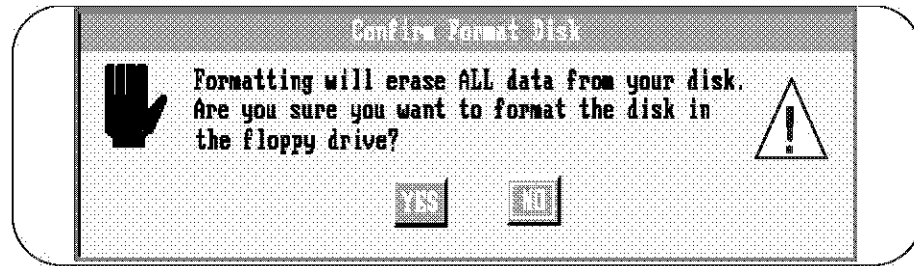

Figure 3-22: Confirm Format Disk Pop-up Screen
2. The Confirm Format Disk Pop-up Screen will be displayed (*figure 3-22*). Press the TAB key to select YES and press the ENTER key to format the diskette. Press the TAB key to select NO and press the ENTER key to cancel the format operation.